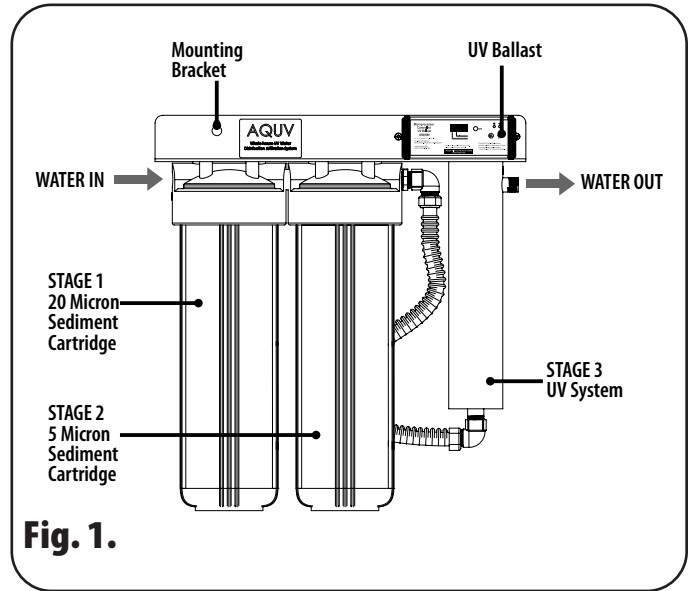

Fig. 1.
Your AQUV-12R22 and AQUV-20R22 units feature a three-stage design. The first two (2) stages are 20 micron and 5 micron filters that reduce dirt, rust, sand and other fine particulate matter. Stage three is a UV system that instantly destroys pathogenic bacteria (such as coliform, E. coli, viruses, etc) in the water using germicidal ultraviolet light emitted by a specially engineered UV lamp at 254 nm wavelength. Treated water flows out of the chamber and is ready for use (See Fig 1).